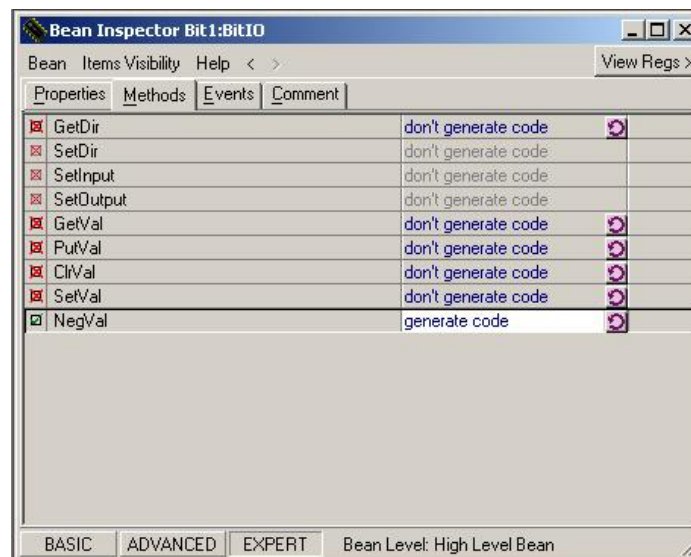

Figure 23. Bean Inspector Window - BitIO Methods Configuration on LED_Blink Project
- This project uses the NegVal method from the BitIO bean to invert the LED state. It is not generated by default. To configure it, go to the Methods tab in the Bean Inspector window and click the round arrow button (🔄) for the NegVal method. Figure 23 shows the Methods tab with the changes proposed for the LED Blink project.